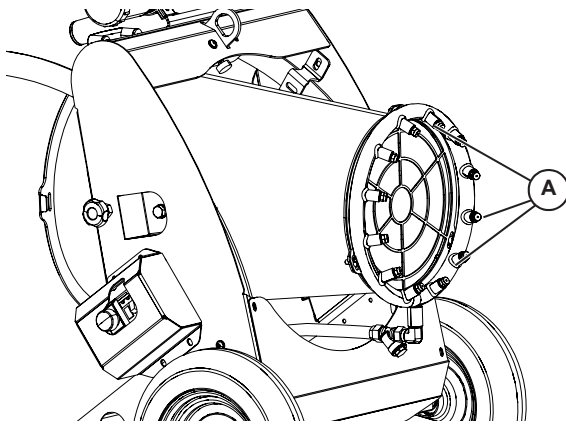

Figure 4-1. Cleaning the Unit
See Figure 4-1. After each use, clean nozzles (A) with a water solution and antilimestone product.